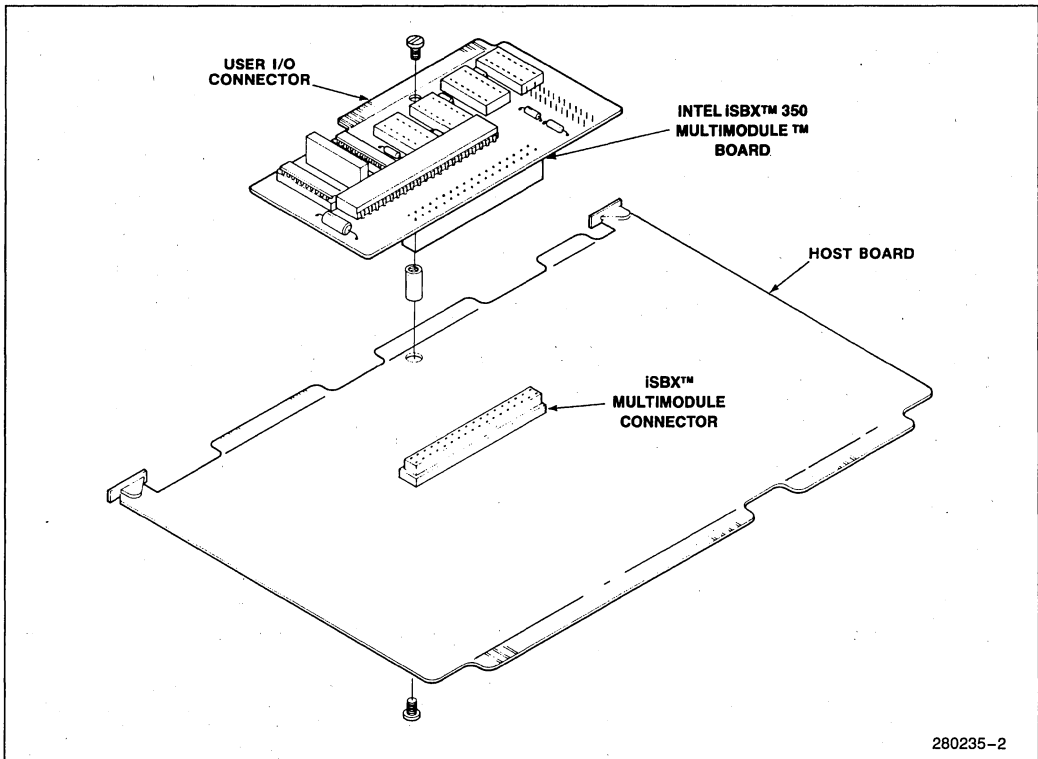
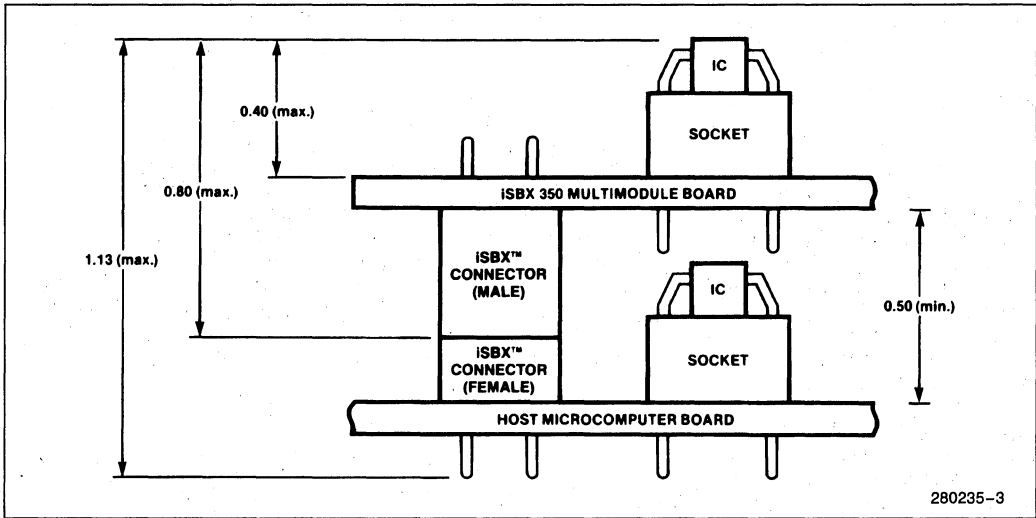

Figure 1. Installation of iSBX™ 350 Module on a Host Board
Figure 2. Mounting Clearances (inches)
The iSBX 350 module plugs directly into the female iSBX connector on the host board. The module is then secured at one additional point with nylon hardware to insure the mechanical security of the assembly (see Figure 1 and Figure 2).
*See Figure 2